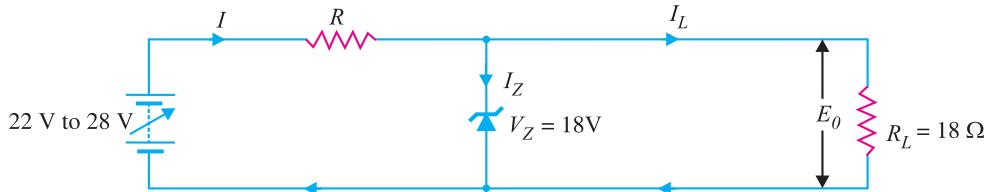

Fig. 6.64
**Example 6.28.** The zener diode shown in Fig. 6.64 has  $V_Z = 18 \text{ V}$ . The voltage across the load stays at 18 V as long as  $I_Z$  is maintained between 200 mA and 2 A. Find the value of series resistance  $R$  so that  $E_0$  remains 18 V while input voltage  $E_i$  is free to vary between 22 V to 28 V.